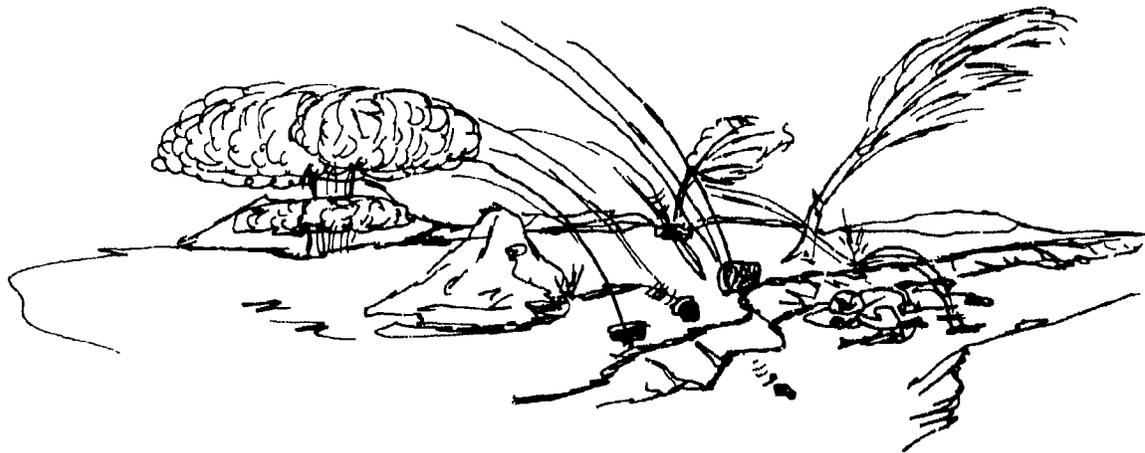

FIGURE 29. PROTECTING YOURSELF IN THE OPEN.
--"Stay down." Even after the initial shock wave has passed, the immediately following violent winds will pick up rocks, branches, debris, dust, equipment, and even barbed wire, creating missiles which can cause personnel injuries (see Figure 29). Wait for the winds to die down and the debris to stop falling before getting up.